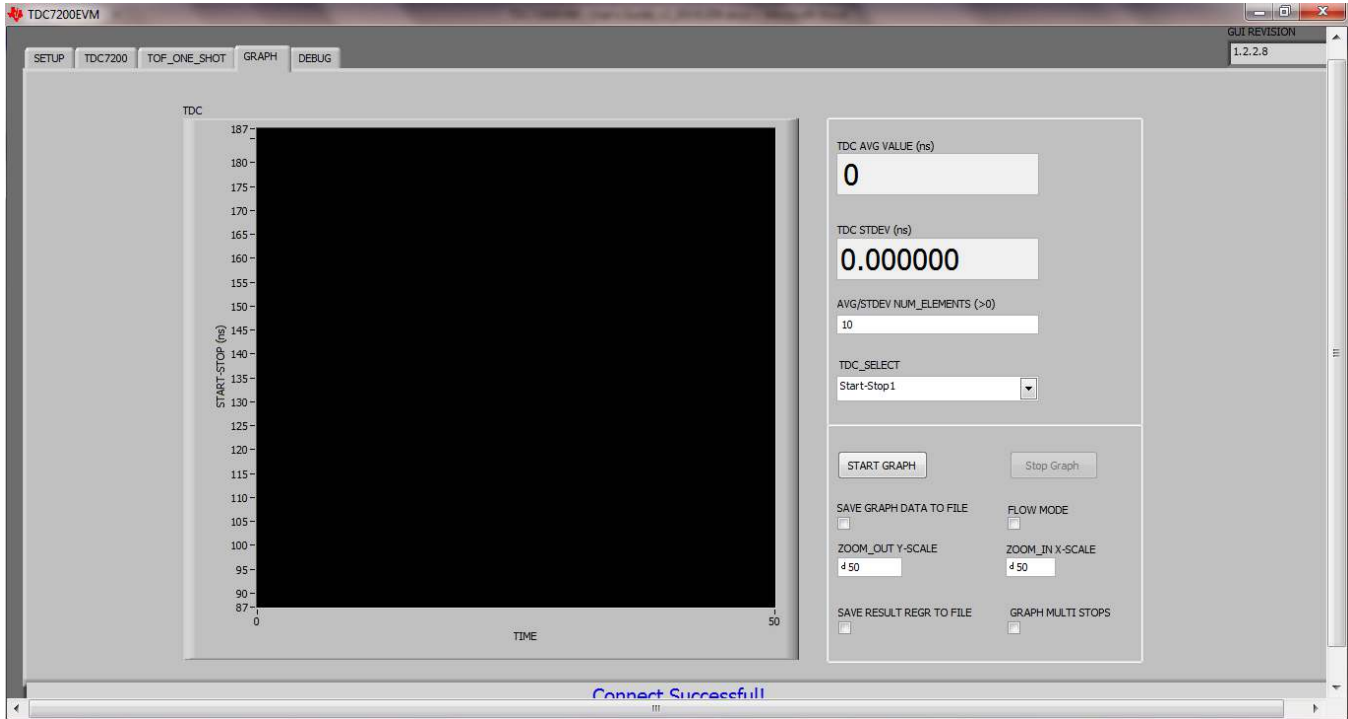

**Figure 3. Device Manager**
5. You should be able to see the "**TDC7200EVM (COMx)**" as shown in Figure 3